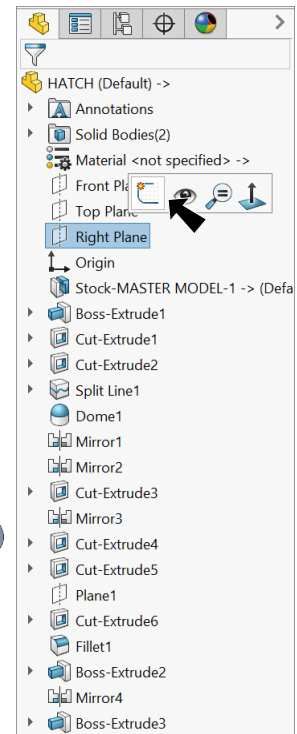

Fig. 111
Step 1. Click **Right Plane**  in the Feature Manager and click **Sketch**  on the context toolbar, **Fig. 111**.